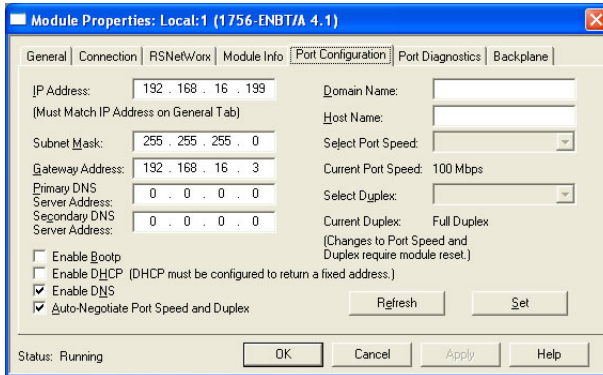

Figure 83: Confirming the Module's Properties
- 11) Confirm that the IP Address, Subnet Mask and Gateway Address fields are configured correctly. The IP Address must match the IP Address entered when the new module was first created. Refer to Figure 83.